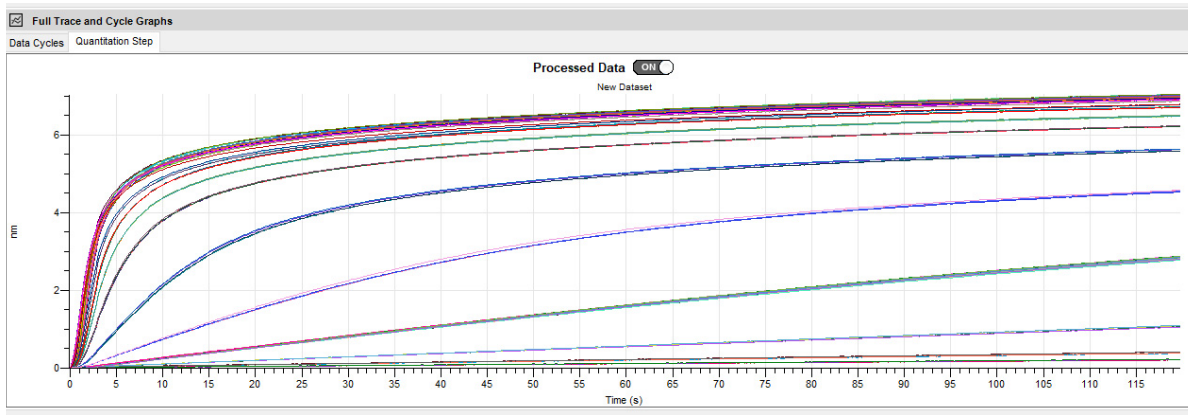

Figure 9-36: Show Zebra Stripe Deselected
- **Show Zebra Stripe** - Checking or deselecting this box shows or hides (Figure 9-36) the alternating white and grey horizontal rows on the graph.